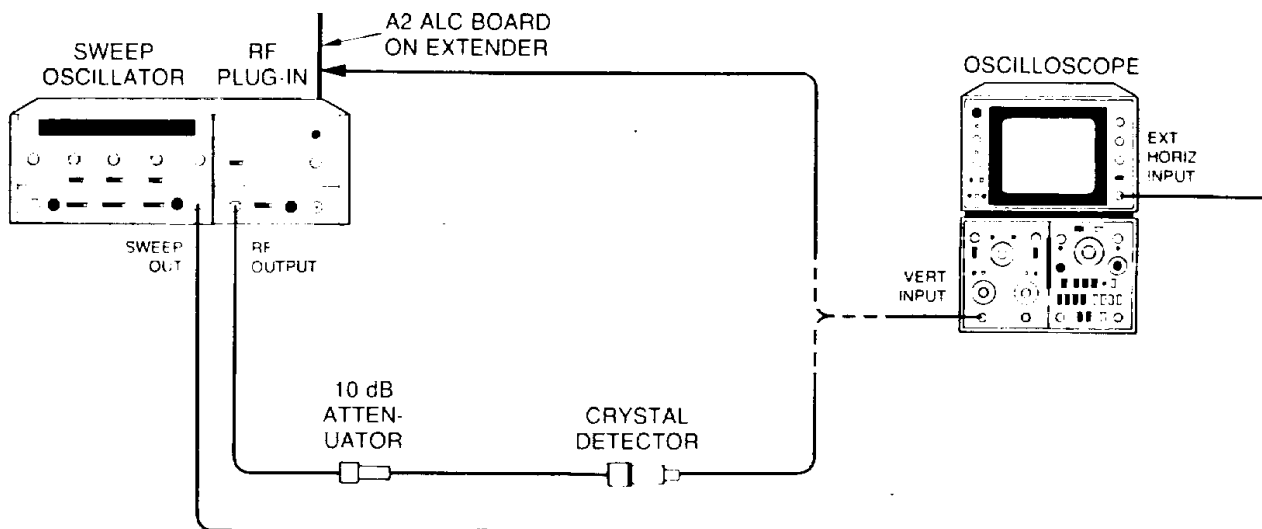

Figure 9-3. Internal Leveling Slope and Gain Adjustments Test Setup
- b. equipment as shown in Figure 9-3 with 0-dB attenuator and crystal detector connected directly to RF OUTPUT.